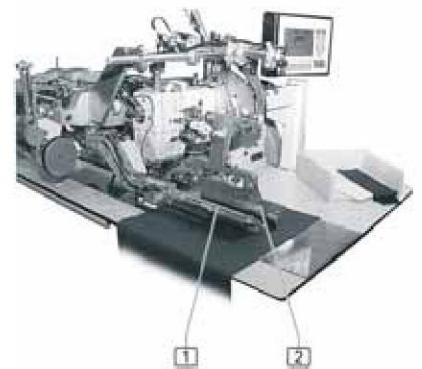

Fig. 16
5. **fig. 16:** Press the right foot switch (machine control); folder **1** is lowered between the two clamp arms. The folding slides extend to fold the piping or welting strip. If necessary, position the flap or pocket pouch. Press the right foot switch (machine control) again; the flap clamp **2** lowers and holds the accessory parts in position on the clamp arms.